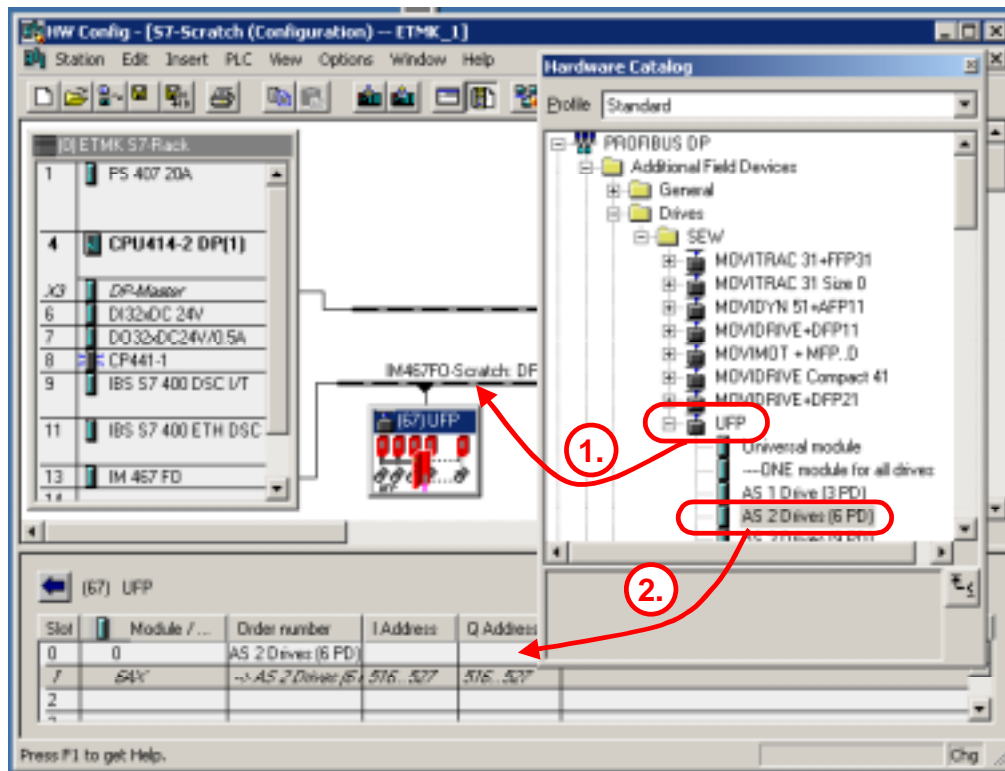

Bild 1: Set-up the UFP in the STEP7 Hardware Configuration
- Open the Hardware Catalog and connect the device „UFP“ of the folder „PROFIBUS DP / Additional Field Devices / Drives / SEW /“ to the PROFIBUS line (see Figure 1, no. 1).
- Choose the DP configuration „**AS 2 Drives (6PD)**“ and insert this module to slot 0 (see figure 1, no. 2).